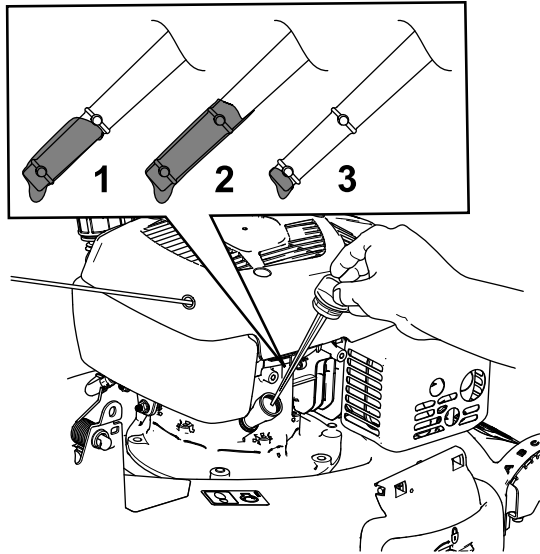

Figure 14
2. Remove the dipstick (Figure 14).
5. Read the oil level on the dipstick (Figure 14).